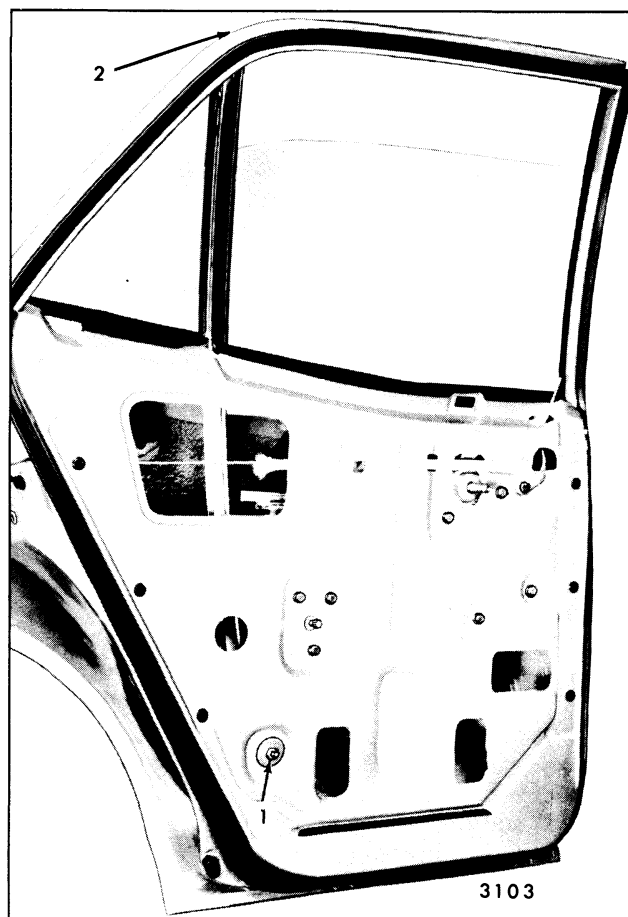

Fig. 5-139-Rear Door Window Removal and Adjustments - "X-69" Styles
1. Remove door trim assembly and detach inner panel water deflector sufficiently to gain access to the lower adjusting stud and nut ("1", Fig. 5-139).
3. Remove ventilator division channel lower adjusting stud and nut ("1", Fig. 5-139).
4. Carefully lower door window and remove division channel to door upper frame attaching screw. ("2", Fig. 5-139).
Adjustment has been provided to relieve a binding door glass due to misalignment of the ventilator division channel ("1", Fig. 5-139).